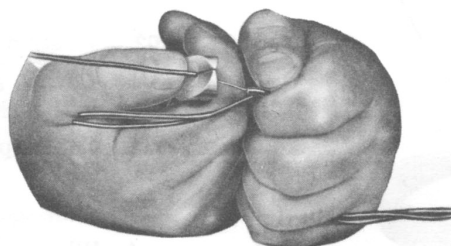

**Fig. 4 — Using Cable Stripper**
3. Pull stripper toward free end of cable (Fig. 4).